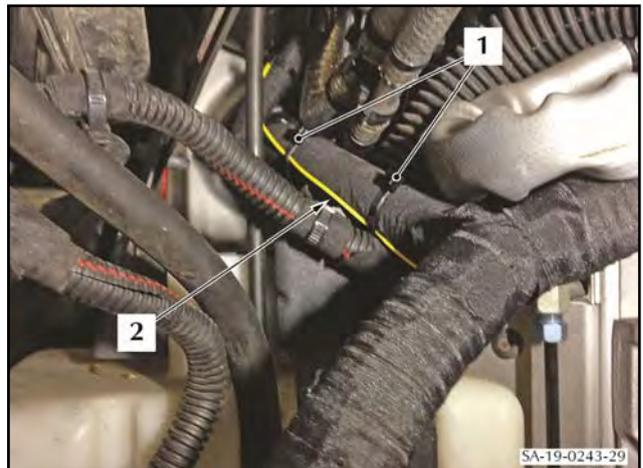

Figure 67
95. Use cable ties (1) at approximately 75 mm intervals to attach the new ground wire (2) to the harness (refer to Figure 67).